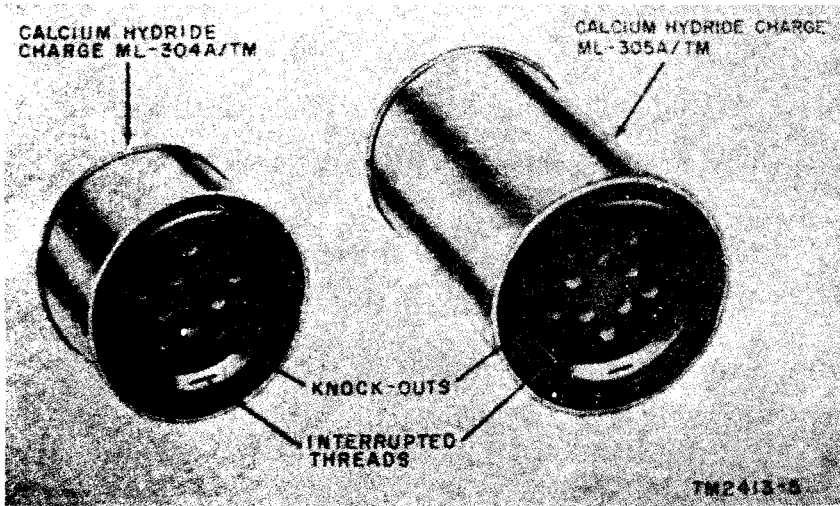

Figure 5. Calcium Hydride Charges ML-304A/TM and ML-305A/TM.
*a. Calcium Hydride Charge ML-804A/TM and ML-305A/TM (fig. 5).*
- (1) Calcium Hydride Charge ML-304A/TM is an airtight metal can containing approximately 6 ounces of 90-percent pure calcium hydride. The can is 3  $\frac{3}{4}$  inches in diameter, and 2 inches high. The top of the can is recessed and is provided with interrupted threads for attaching the charge to the bottom of the generator body. On the top of the can there are a number of knockouts that can be removed to allow water to enter the can. The charge